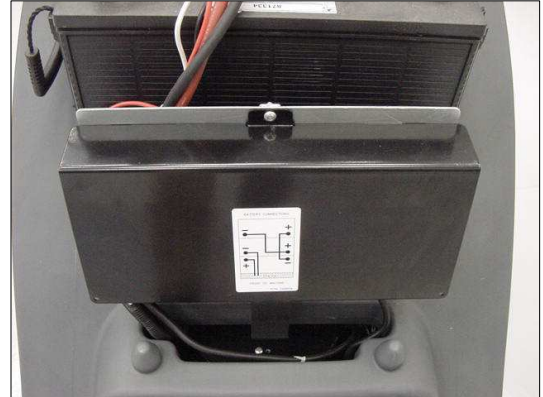
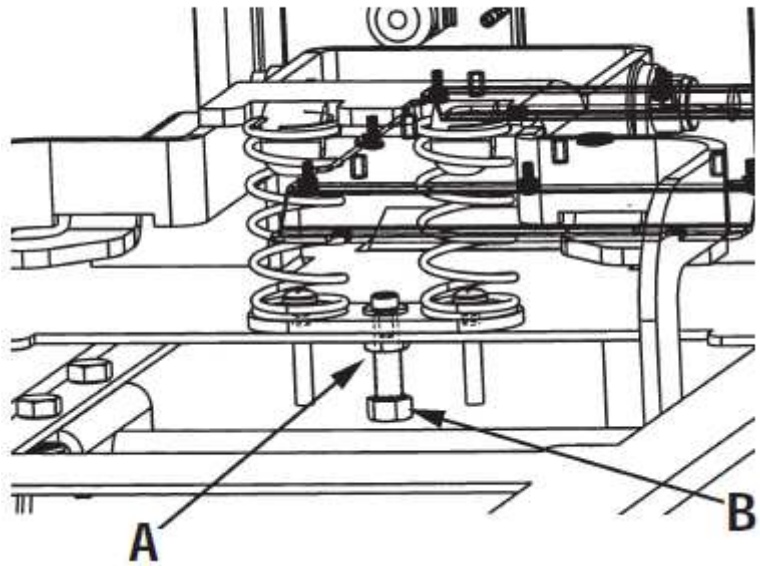

Figure 8 – Electrical Console Cover
Figure 25 – Adjusting the Pad Pressure
1. See Figure 8. Remove the electrical console cover.
- If the pad motor current draw while burnishing is between 45 and 55 amps, the pad pressure is correct. No additional work or adjustments are necessary. Reinstall the electrical console cover (Figure 8).
- 15.** Reassemble the machine, but do not reinstall the electrical console cover (Figure 8).
- If the pad motor current draw while burnishing is between 45 and 55 amps, the pad pressure is adjusted correctly. Reinstall the electrical console cover (Figure 8).
- c. See Figure 25. Loosen the jam nut (**A**) from underneath the burnisher.
- To add preload to the compression springs and **decrease** the pad pressure, turn the bolt (B) **clockwise**.
- To reduce the preload on the compression springs and **increase** the pad pressure, turn the bolt (B) **counterclockwise**.
- g. When the pad motor current draw while burnishing is between 45 and 55 amps, reinstall the electrical console cover (Figure 8).